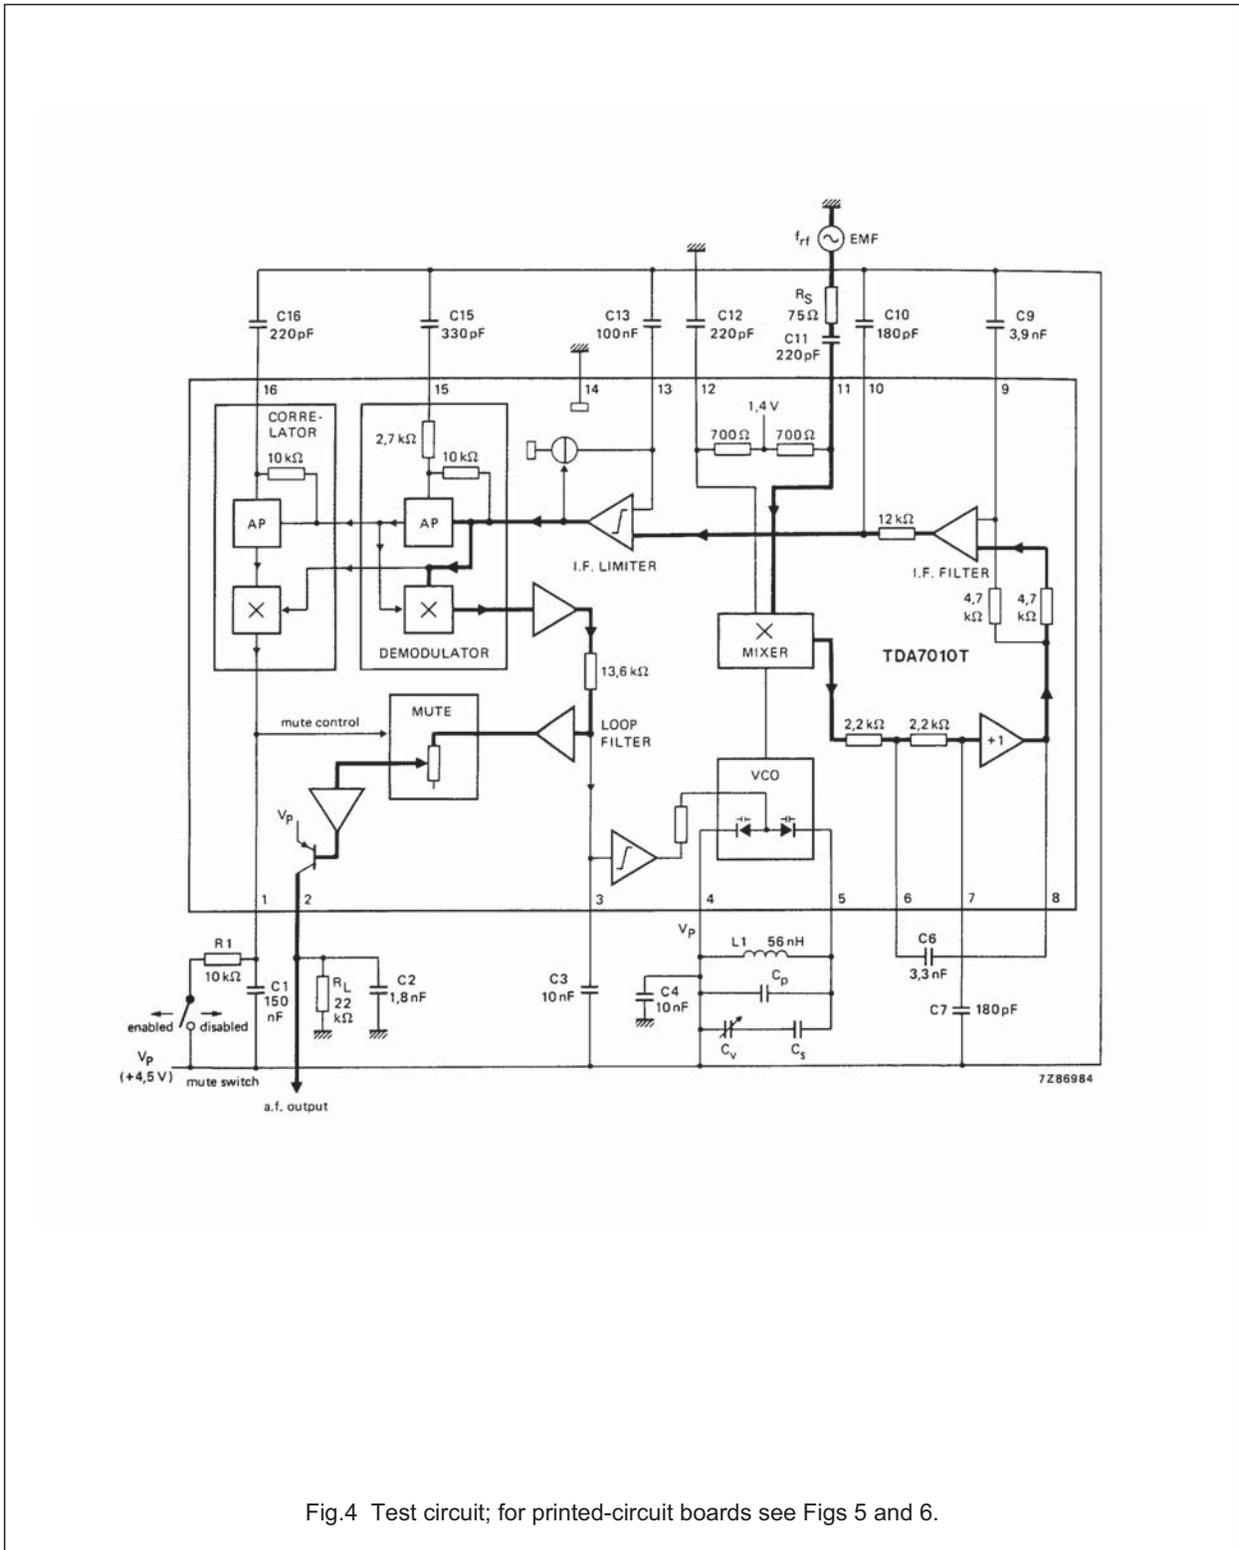

Fig.4 Test circuit; for printed-circuit boards see Figs 5 and 6.
**D.C. CHARACTERISTICS** $V_P = 4,5$  V;  $T_{amb} = 25$  °C; measured in Fig.4; unless otherwise specified
$V_p = 4,5 \text{ V}$ ;  $T_{amb} = 25 \text{ }^\circ\text{C}$ ; measured in Fig.4 (mute switch open, enabled);  $f_{rf} = 96 \text{ MHz}$  (tuned to max. signal at  $5 \mu\text{V}$  e.m.f.) modulated with  $\Delta f = \pm 22,5 \text{ kHz}$ ;  $f_m = 1 \text{ kHz}$ ;  $\text{EMF} = 0,2 \text{ mV}$  (e.m.f. voltage at a source impedance of  $75 \Omega$ ); r.m.s. noise voltage measured unweighted ( $f = 300 \text{ Hz}$  to  $20 \text{ kHz}$ ); unless otherwise specified.